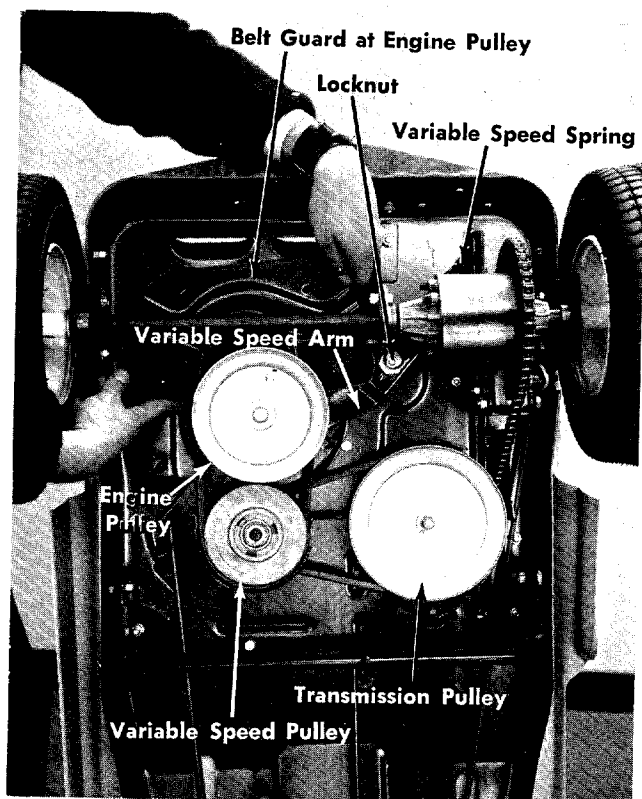

FIGURE 22. ENGINE BELT GUARD REMOVAL
Step 4. Remove the belt guard at the engine pulley. See figure 22.
Step 5. Remove the nut and lockwashers at the transmission pulley and variable speed pulley. See figure 22.
Step 6. Remove the locknut at the variable speed arm and lift off the spring. See figure 22.